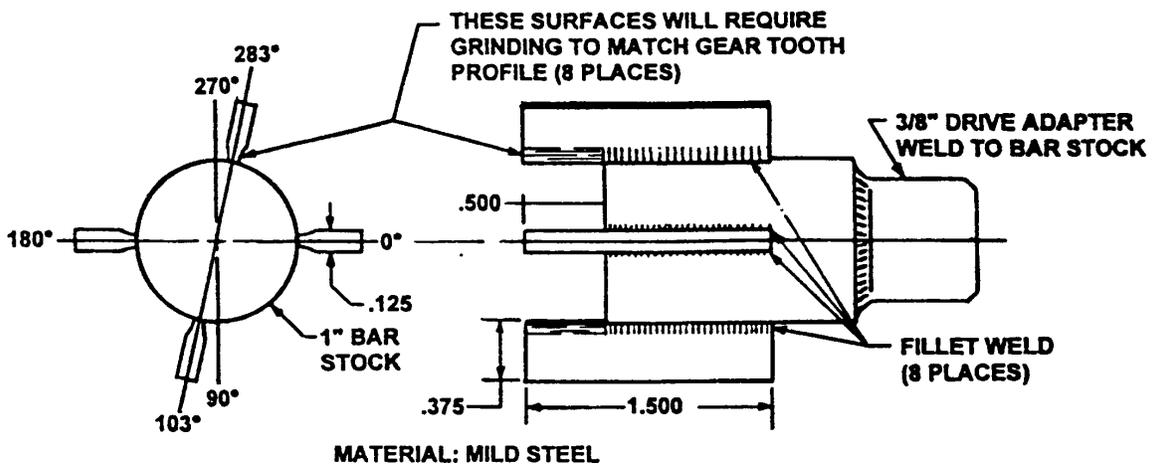

FIGURE 12-2. SLIPPAGE INSPECTION TOOL
- b. Figure 12-2 provides necessary dimensions to produce a tool for checking coupling slippage torque.